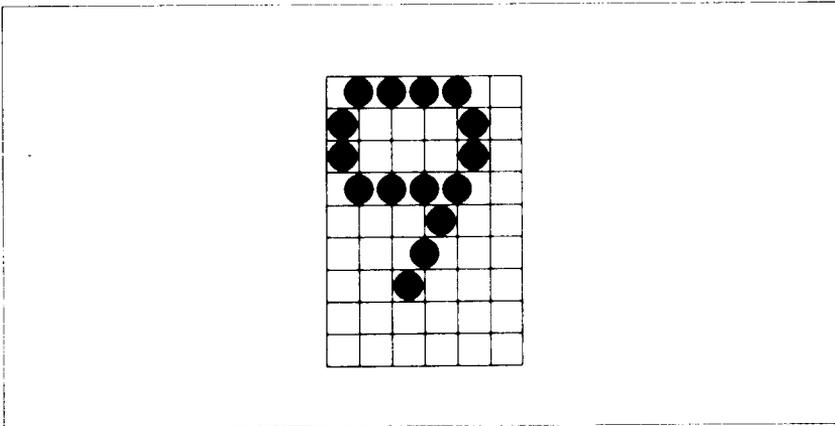

Figure 7-2. Dots can be inside boxes or straddle the vertical lines of the grid.
- Horizontally, dots may be centered in a box, or may straddle a line, making the actual character grid 11 dots wide by 9 dots high. Vertically, dots can only be centered in a box. See Figure 7-2.